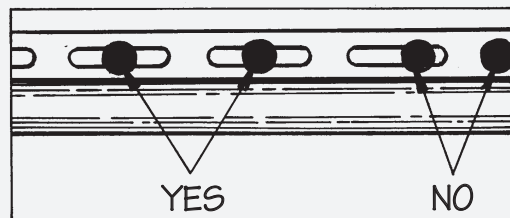

Figure 15.
- Center the fasteners in the slots to permit expansion and contraction of the siding (Fig. 15).